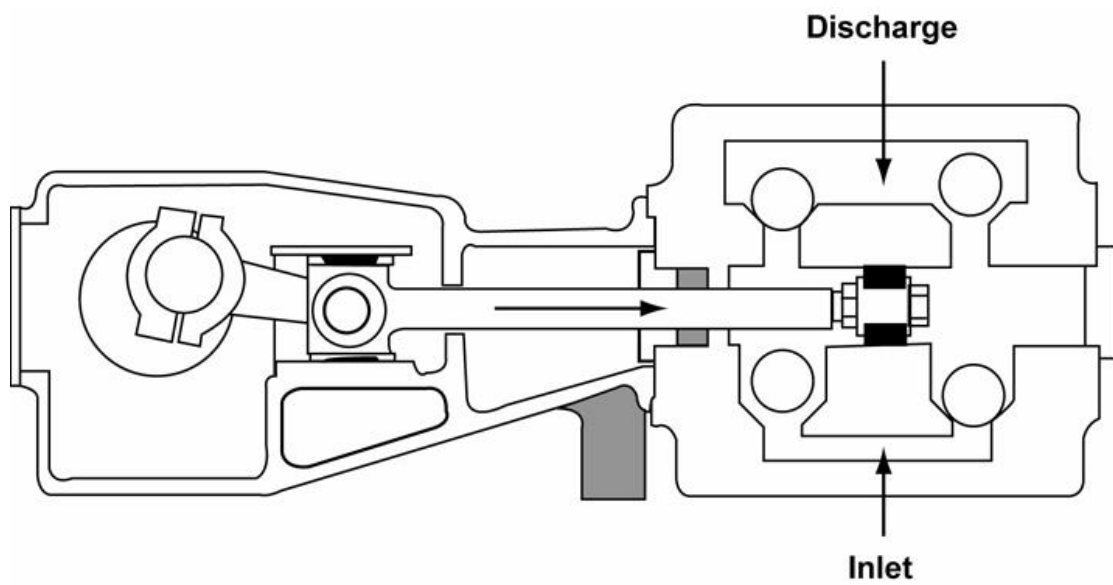

Figure 8.4 – Horizontal single-acting piston power pump
3. Horizontal double-acting piston power pump (Figure 8.4)